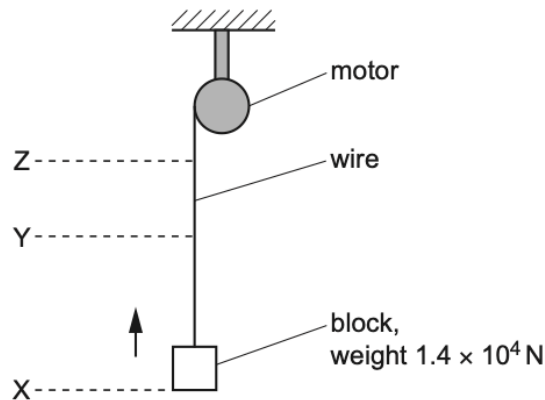

Fig. 2.1 (not to scale)
- 17 A motor uses a wire to raise a block, as illustrated in Fig. 2.1.